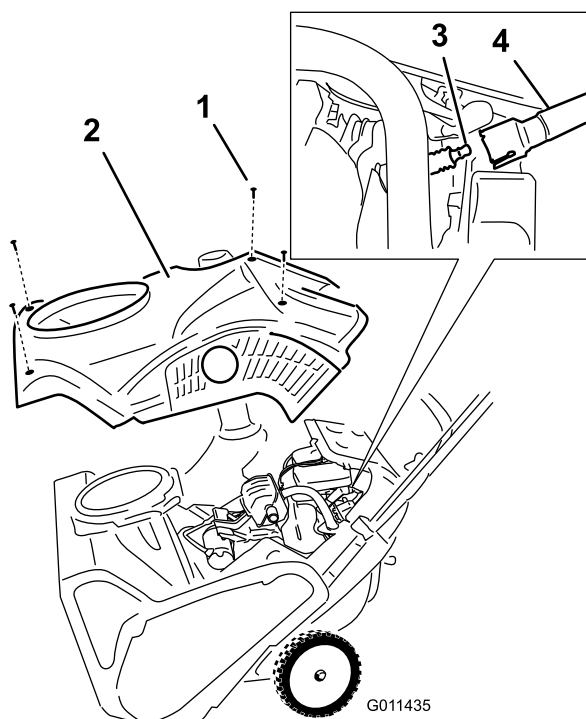

Figure 33
4. Remove the 4 screws that secure the shroud (Figure 33).
6. Remove the shroud (Figure 33).